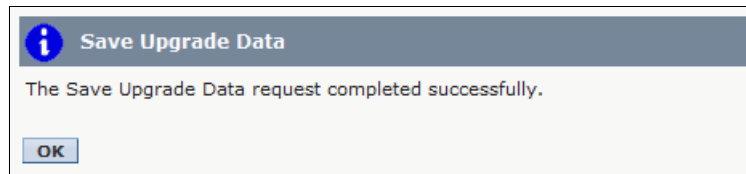

Figure 3-126 Upgrade Data Saved
4. After the Save Upgrade Data task completes (Figure 3-126), put the HMC V8.8.4.0 recovery media into the HMC DVD drive, and reboot the HMC.